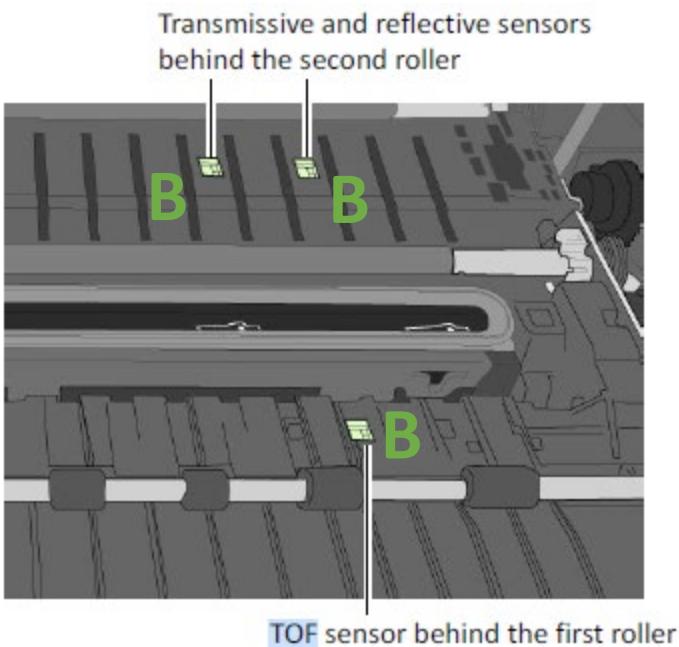

Figure 1, Overhead View of the Print Engine with Media Sensors Labeled
1. Use a can of compressed air and gently spray the media sensors to disperse any debris that may have accumulated. (**Figure 1 – Points identified by letter “B”**)